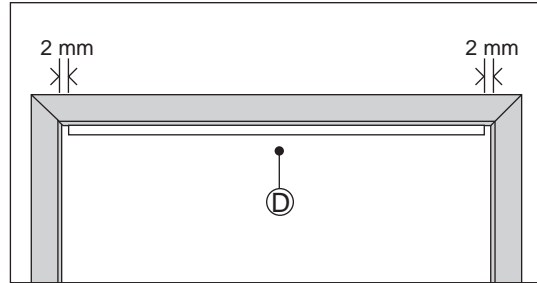

fig. 8
1. Position Top Track ① in the centre of the doorway. Allow a 2 mm gap on either side between the Track and the Door Jambs.
**See fig. 8.**